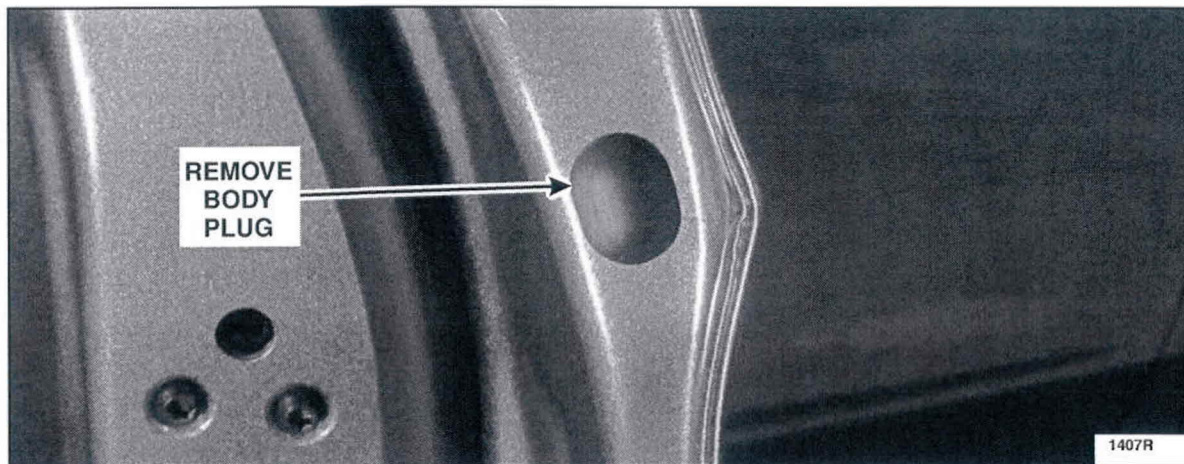

FIGURE 5
1. Remove the body plug from the door. See Figure 5.
8. Install the body plug. See Figure 5.